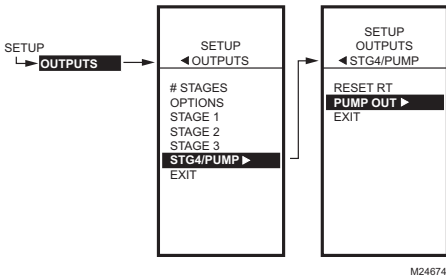

Fig. 47. Setup Last Output.
1. From the Outputs menu, use the ▲ and ▼ buttons to highlight the last Stage (Fig. 47 shows Stage 4 as the last relay output).